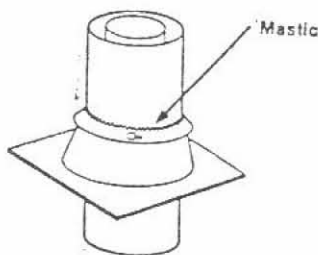

Figure 35
**Step 8:** The standard Superior roof flashing assemblies include a storm collar. Slide storm collar over outer flue, align with top surface of flashing, insert storm tab in slot, pull tight and bend tab back over slot. Seal storm collar to outer flue pipe with roof caulking or mastic around entire circumference of pipe. (Also add extra roof caulking where storm collar meets flashing and to the tab/slot area to seal completely against water penetration (Figure 35). Check all joints very carefully to insure no water intrusion can take place.